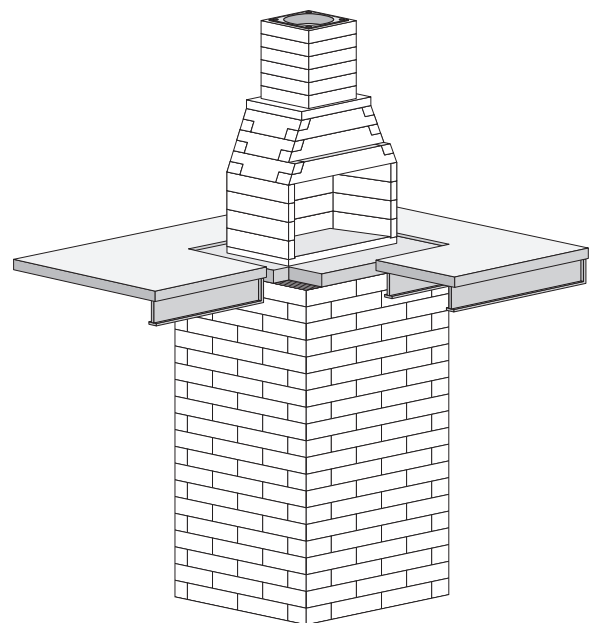

FIGURE 3.2
2. **Concrete Pad Supported by Masonry (CMU) Tower (Figure 3.2):** Typically used when the fireplace is placed over a deck. The noncombustible pad is best made from a 6" thick concrete slab with #4 rebar tied together at maximum 12" intervals, center poured on top of corrugated metal. Concrete pad must be supported by a full masonry tower with no combustible underpinnings to withstand the weight of the firebox and flue system.